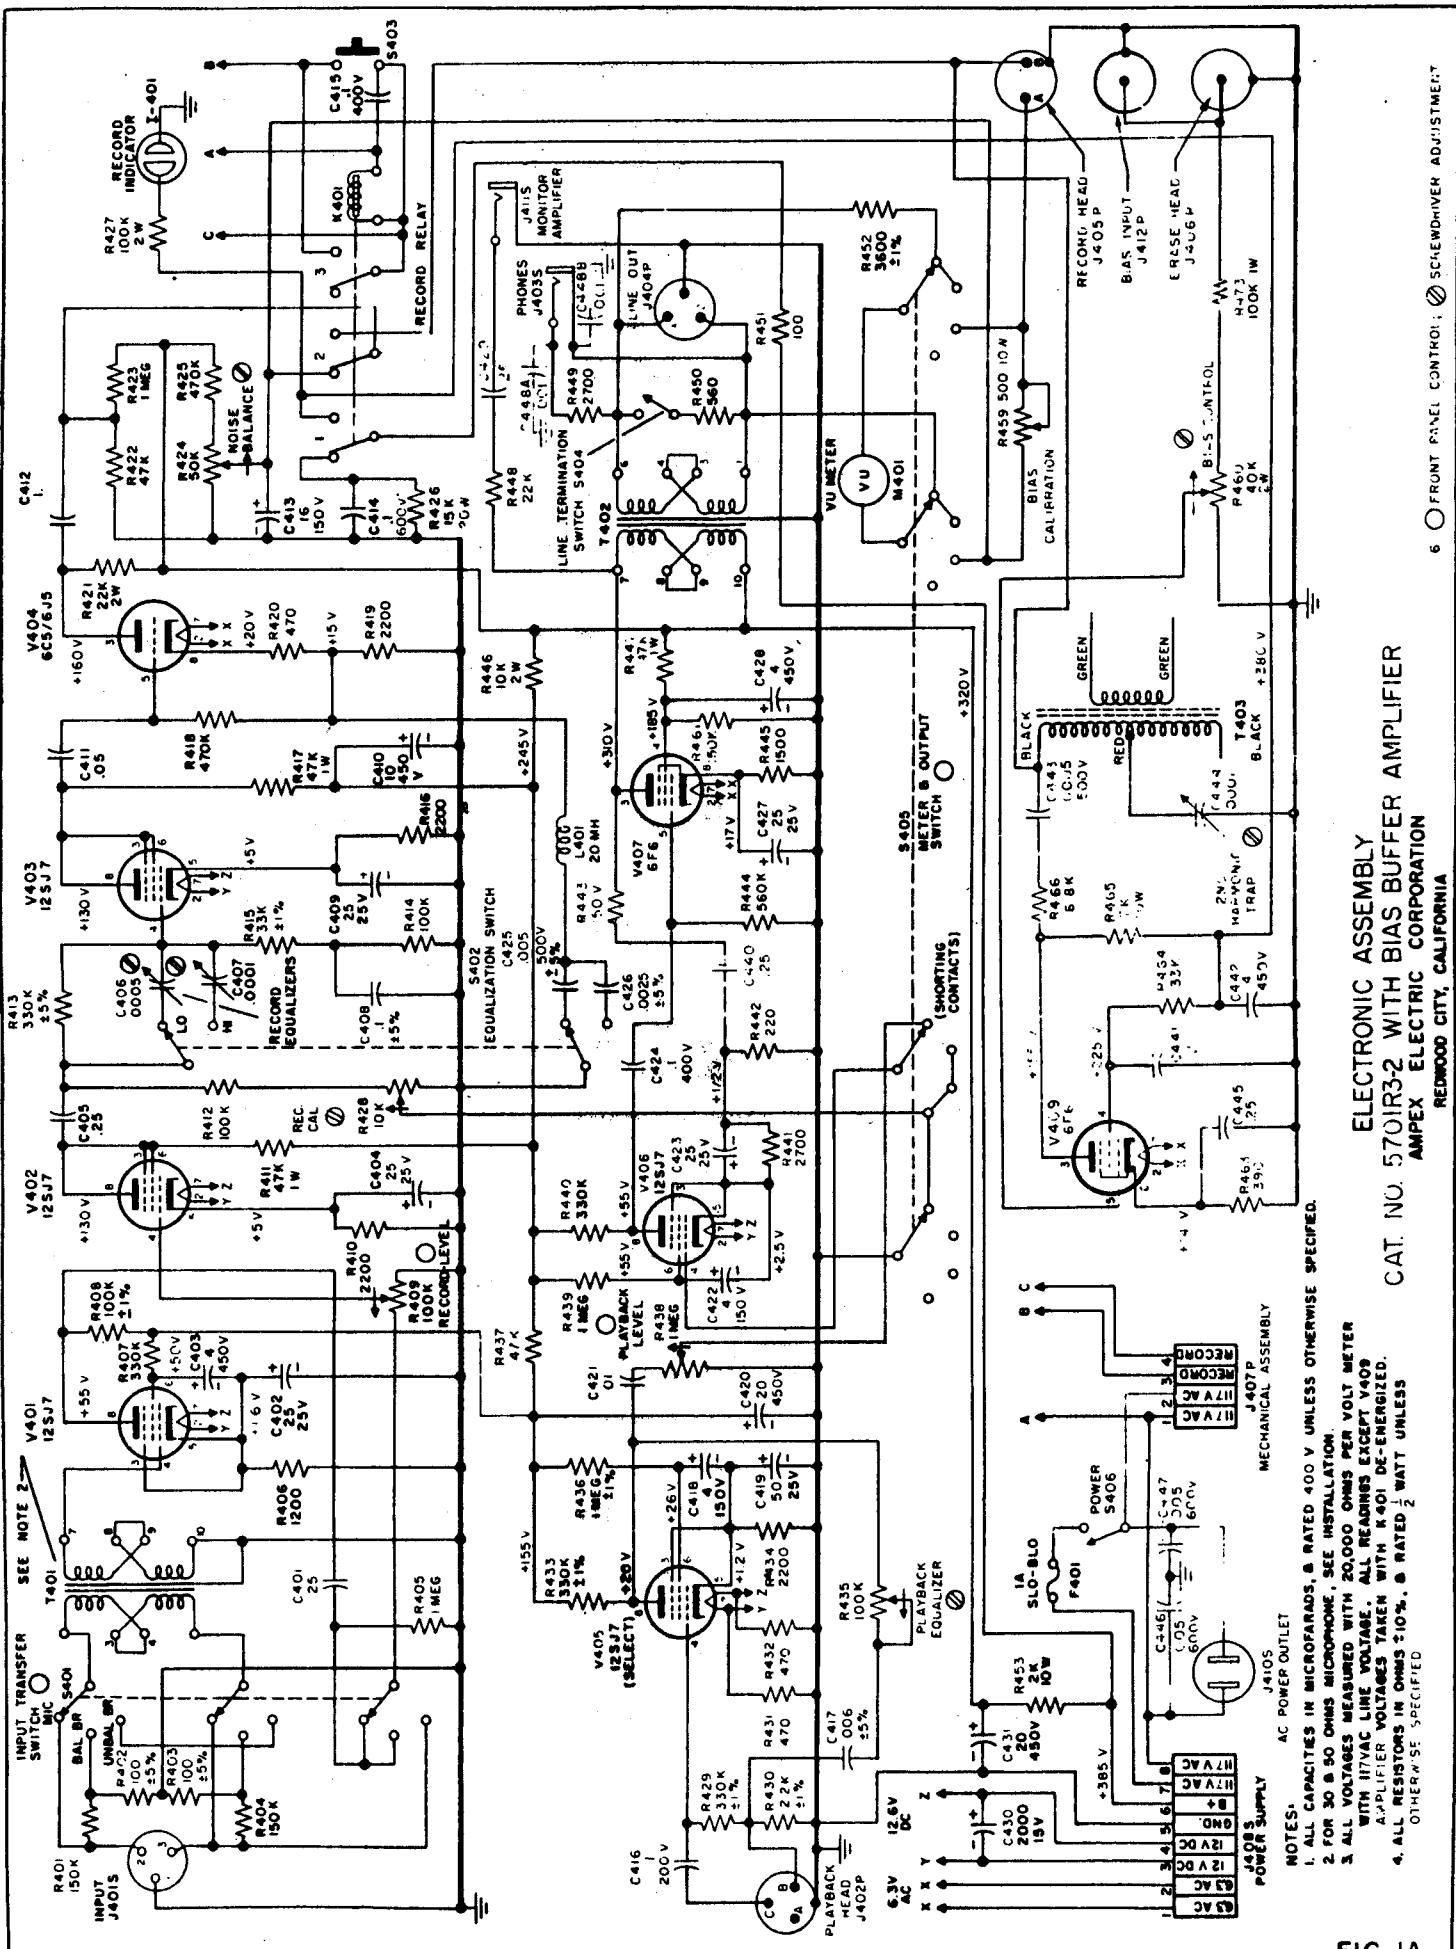

FIG. 1A
3. A catalog number 5701 or 5701-1 Electronic Chassis (Figure 1 or 2) is supplied for Track #1 (upper track). This assembly incorporates the standard erase and bias oscillator. A catalog number 5701-2 or 5701-3 Electronic Chassis (Figure 1A or 2A) is supplied for Track #2 (lower track). This assembly is identical to the Track #1 Electronic Chassis, except the erase and bias oscillator has been replaced with a bias buffer amplifier. The input of the buffer amplifier (the connector labelled Bias J412P) receives the bias signal through a Bias Interconnecting Cable connected to the Erase Head Connector on the Track #1 Electronic Chassis. The buffer amplifier amplifies the bias signal to provide the bias current for the Track #2 record head. The erase head is connected to the Erase Head Connector on the Track #2 Electronic Chassis.